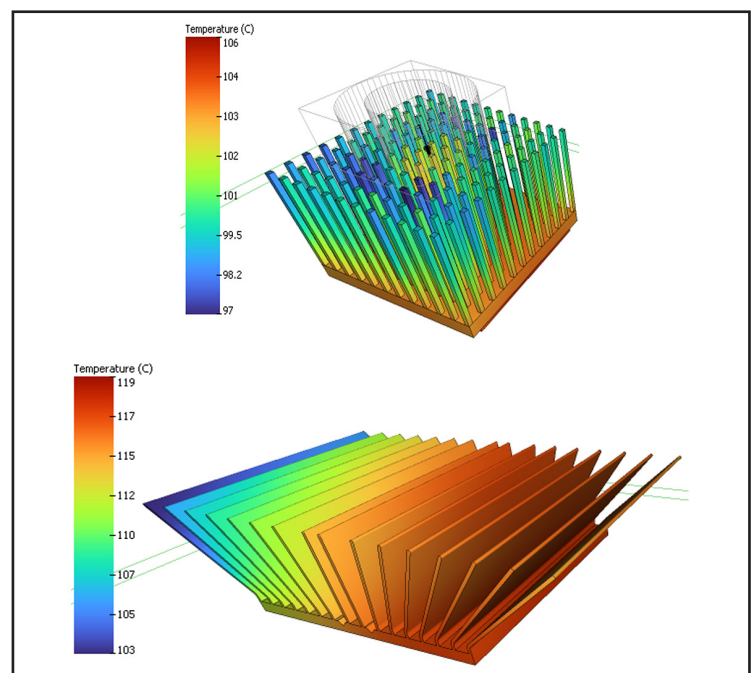

Figure 7. Surface Temperature Contours of the System's (top) Original Pin-Fin Heat Sink, and Its Replacement (bottom) ATS MaxiFLOW Heat Sink
- Replaced the original pin-fin heat sink with an ATS MaxiFLOW heat sink (Figure 7)